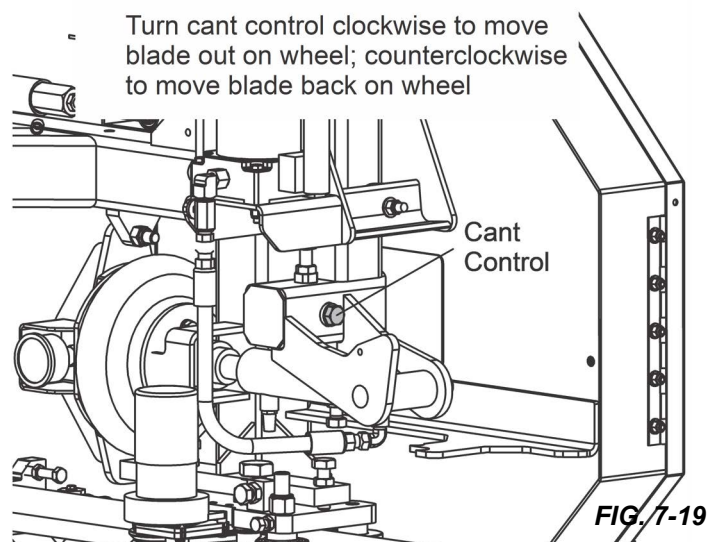

FIG. 7-19
16. Use the cant control adjustment to adjust the idle-side blade wheel. See FIG. 7-19.